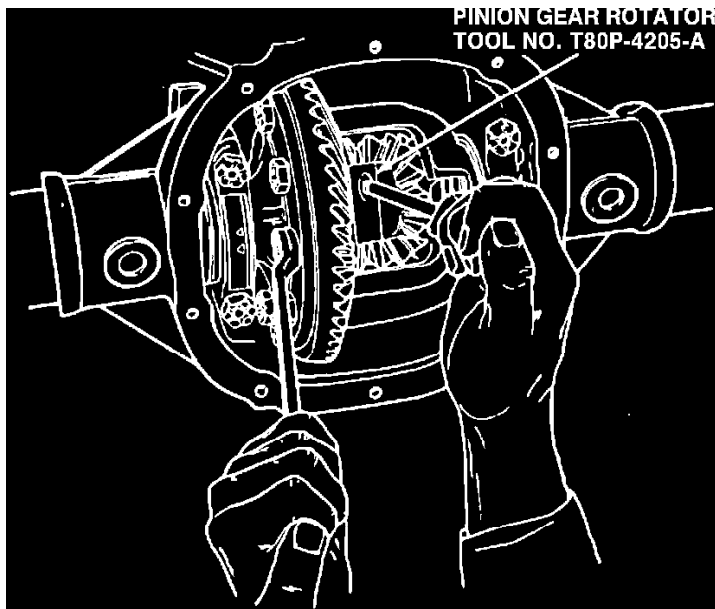

Fig. 8 Pinion gear removal & installation
3. Align gears with pinion shaft bore, **Fig. 8**, using 12 inch socket extension inserted in pinion shaft rotator.